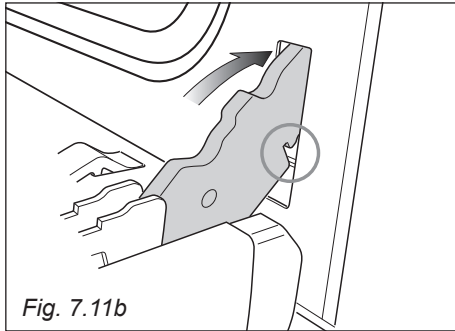

Fig. 7.11b
- Open the lever "A" completely on the left and right hinges (fig. 7.11b).
- Gently close the door (fig. 7.11c) until left and right hinge levers "A" are hooked to part "B" of the door (fig. 7.11b).